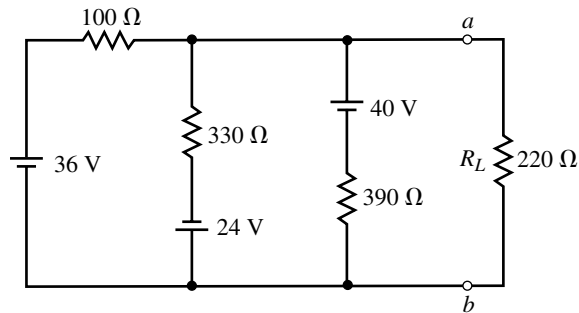

FIGURE 9-104
46. Repeat Problem 45 for the circuit of Figure 9-104.